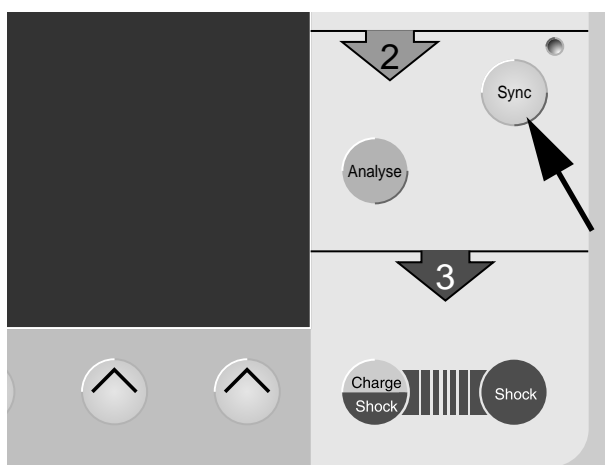

Figure 4-18. Sync button, activates the synchronized defibrillation mode
- Activate the synchronized mode with **Sync** (Figure 4-18).